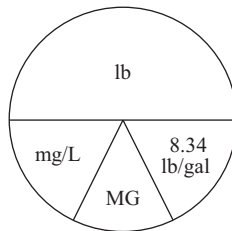

FIGURE 16.4 Dosage formula pie chart.
When converting pounds (lb) or mg/L, million gallons (MG) and 8.34 are key parameters. The pie chart shown in Figure 16.4 and the steps listed below can be helpful in finding lb or mg/L.